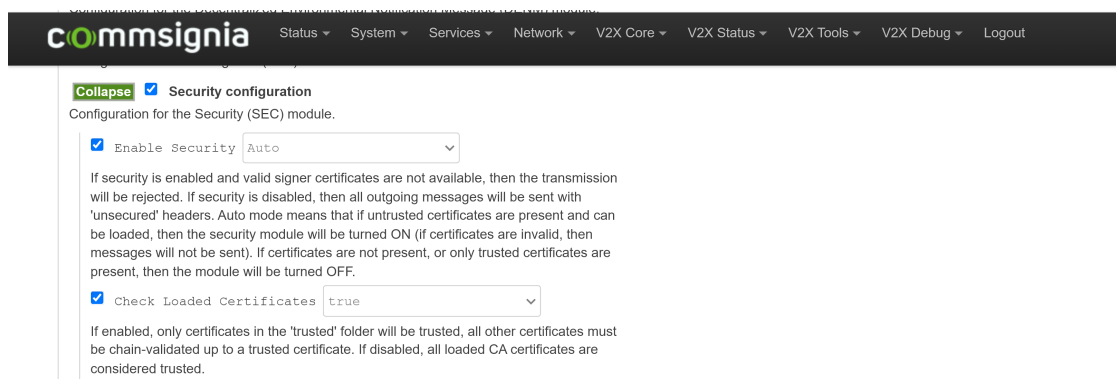

Figure 39. Security configuration
2. Open the **V2X Core** → **Core stack** menu and expand and check the box next to the **Security configuration** item, as shown in Figure 39.